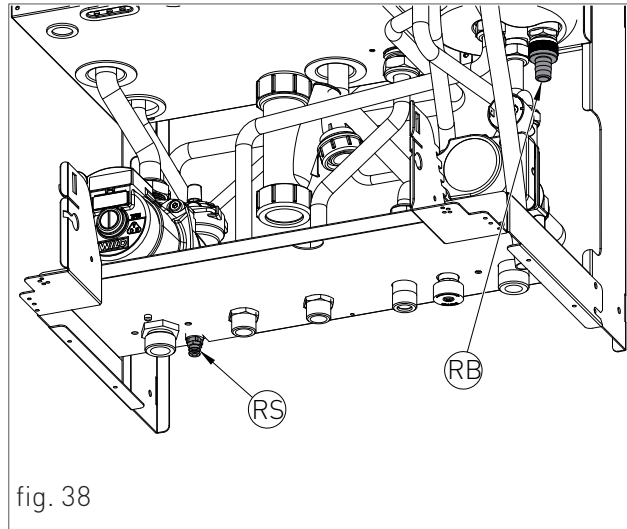

fig. 38
- › turn the discharge tap of the system ‘RS’ (fig. 38);
- › Joint the water draining pipe and open the cylinder draining tap ‘RB’ (fig. 38)
- › after completing all operations, close the cylinder draining tap ‘RB’ (fig. 38) and all previously opened water taps.